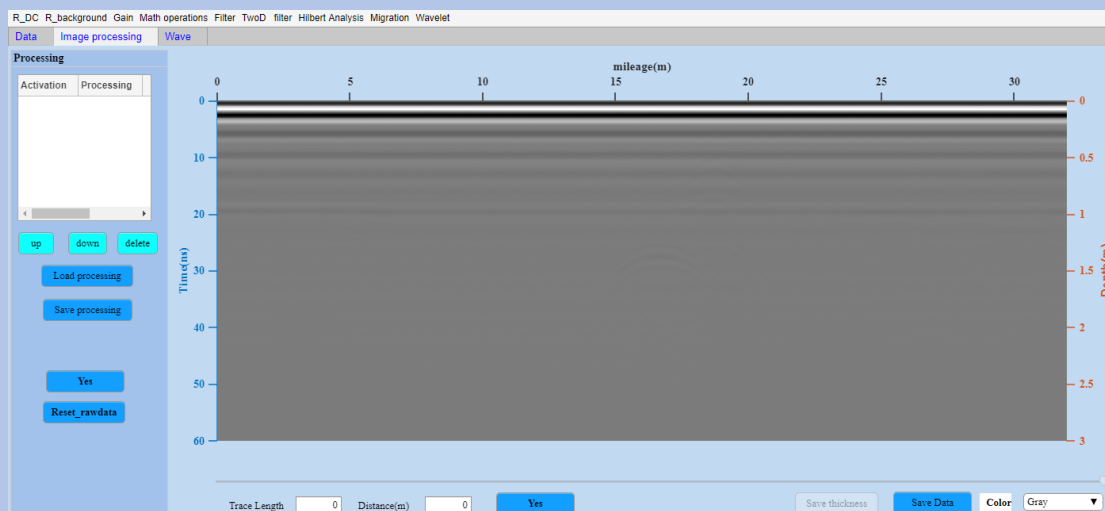

Figure 8.10 Case2 raw data
(3) Switching to the Image Processing module, we can observe the raw data as shown in Figure 8-10.